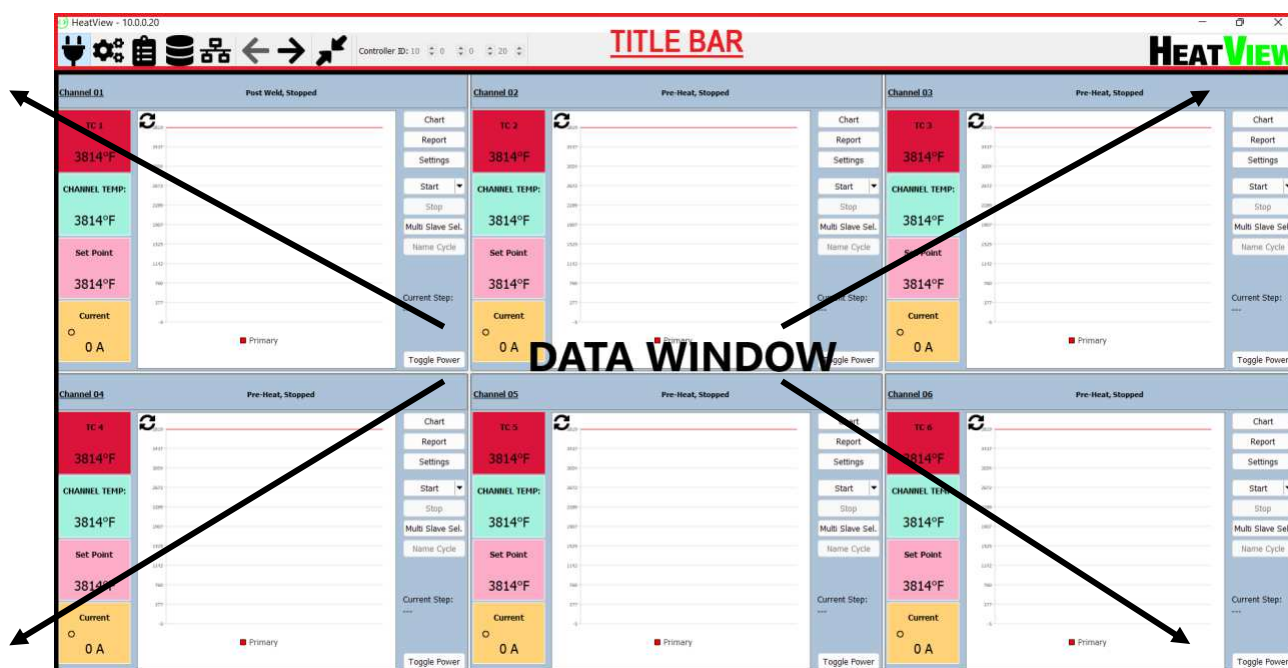

Figure 41: The Main Screen - Elements
Figure 41 below is an image of the HEAT VIEW computer applications 'Main Screen', separated into its important elements. From this 'Main Screen' an operator can interact with almost every other element of the application. The 'Main Screen' can be broken down into 2 key elements. These elements are:
1. The 'Title Bar' – highlighted in red in Figure 41 below – is always available along the top portion of the application and offers access to various system functions.
2. The 'Data Window' – highlighted in black in Figure 41 below – is the lower section of the program that shows an operator either channel data or chart data, depending on which 'Data Window' you are currently set to view.